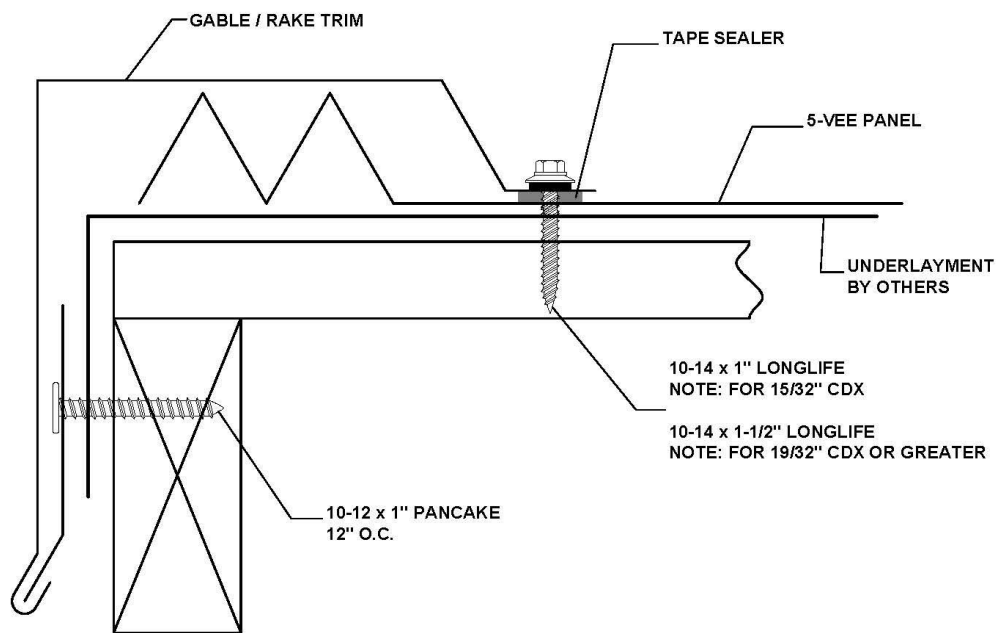

Figure 11: Rake Detail
**Rake Trim:** The rake trim must be installed as shown in Figure 11.